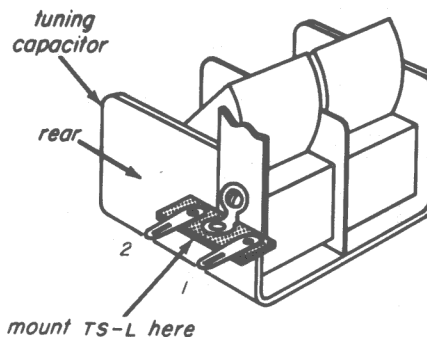

Fig. 32-2
Step 2. As shown in Fig. 32-2, mount a two-lug terminal strip on the screw that holds the antenna coil bracket to the rear of the ganged tuning capacitor. We will call this terminal strip TS-L.